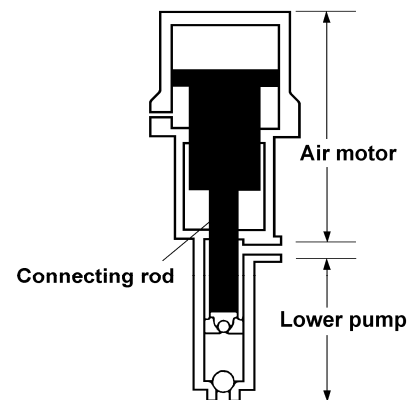

Fig. 1
2. Principle of Operation (Fig. 1)
The Yamada air-powered pump is a reciprocating type pump that is driven by compressed air. The pump consists of an air motor section to drive the pump and a lower pump to pump up the material as shown in the Fig. 1 at right.